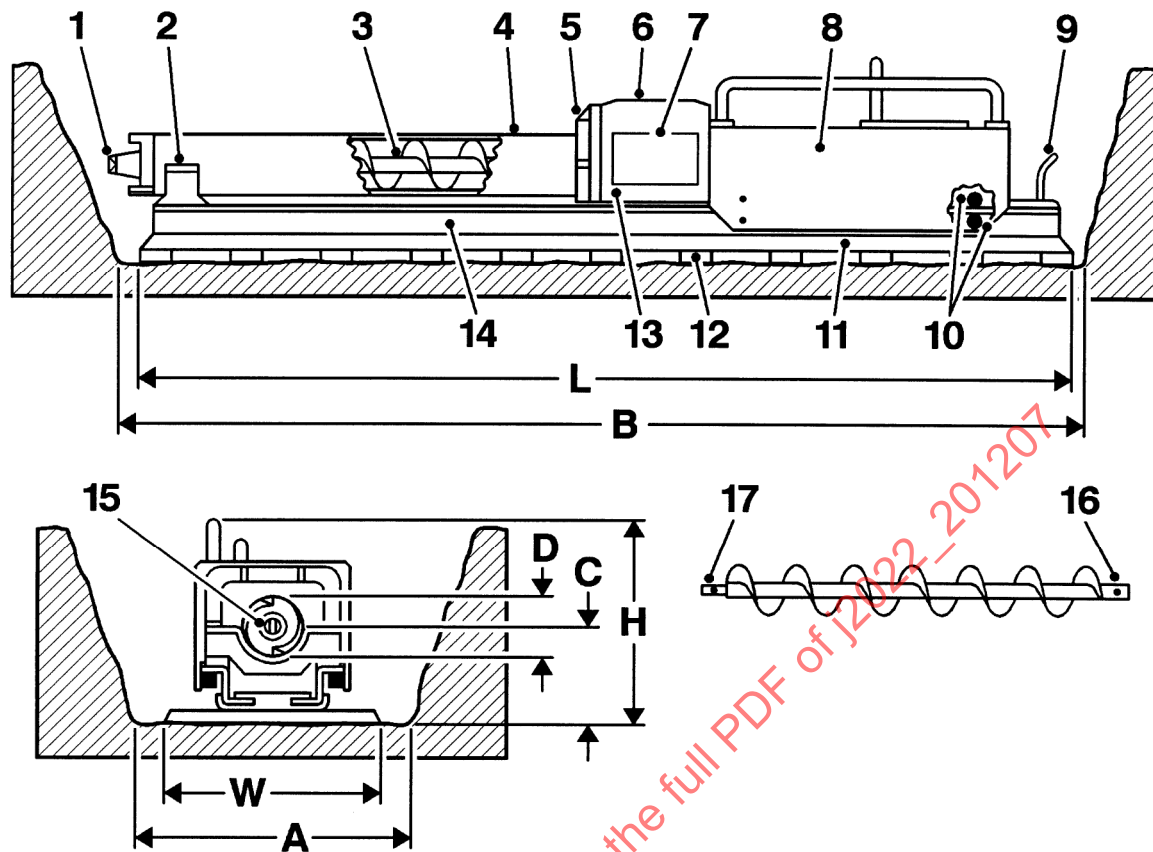

Figure 1—Track-Type Auger Boring Machine
4.1.1.1 Nomenclature—(Refer to Figure 1.)